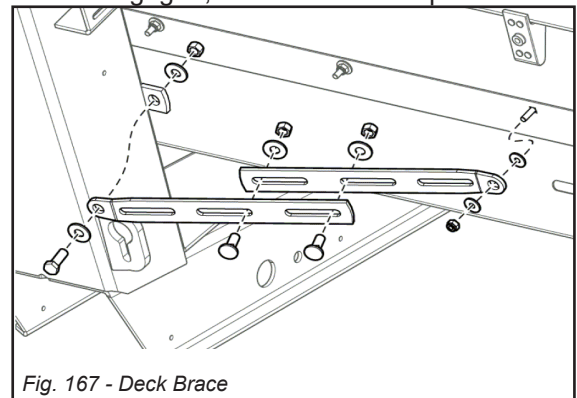

Fig. 167 - Deck Brace
20. If you decide to remove the chain and shifting motor, you will need to order deck braces (Fig. 167) to secure the decks. If the chain and motor remain engaged, braces are not required.